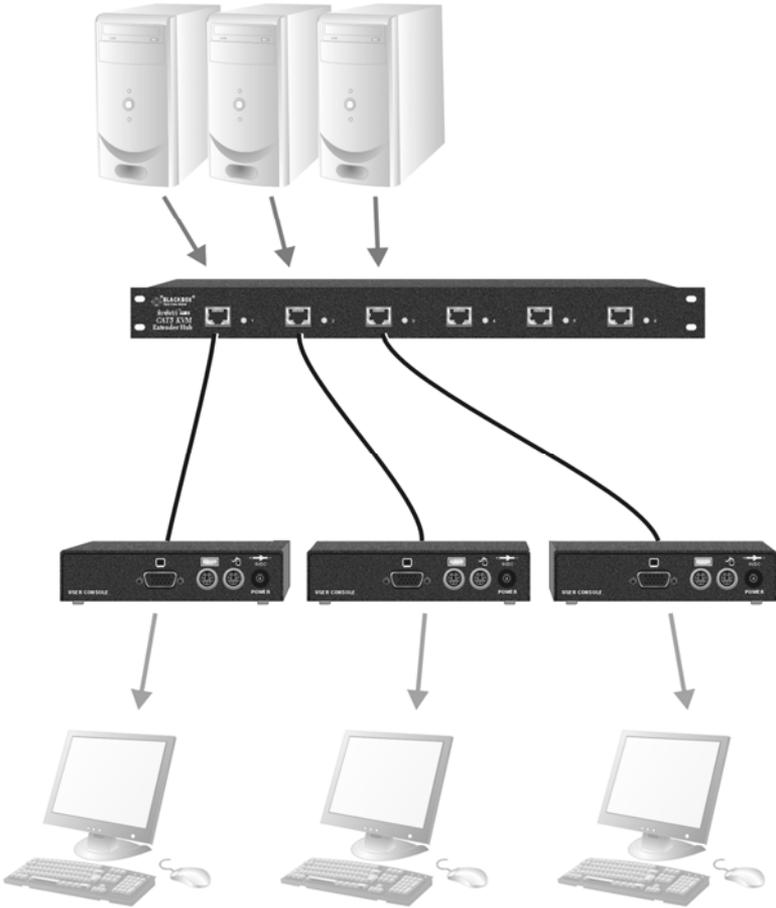

Figure 10
- Individually, connecting a single-head Remote Unit to each port (see Figure 10)